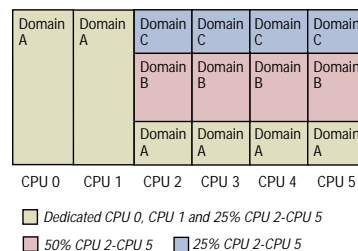

Figure 4-1. Mixed allocation example.
- ▼ Domains with both dedicated and shared CPUs. MDF allows dedicated and shared allocations to be combined in the same domain. One or more CPUs can be dedicated to specific logical processors in the domain, while the domain's other logical processors contend for CPU resources according to their weights. The capability to mix shared and dedicated CPU allocations within a domain has very important benefits in terms of overhead. A domain that has CPUs dedicated to some logical processors enjoys scheduling overhead that is negligible for these logical processors, while retaining the advantage of dynamic expansion of CPU share through its other logical processors (figure 4-1).